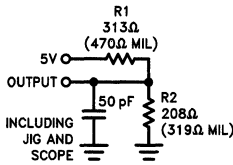
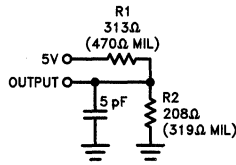

Figure 4a
Figure 4b
- Figure 4a test load used for all parameters except tCEA, tCER, tPZX and tPKZ. Figure 4b test load for tCEA, tCER, tPZX, tPKZ.